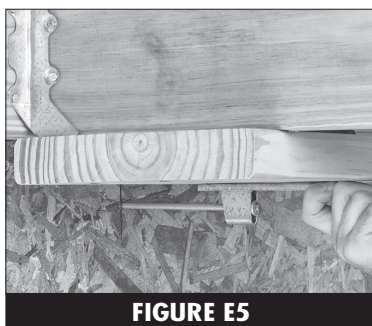

FIGURE E5
6. Slide the bracket over the screw and onto the bottom face of the blocking using the screw silhouette as a pass-through. **(Figure E5)**